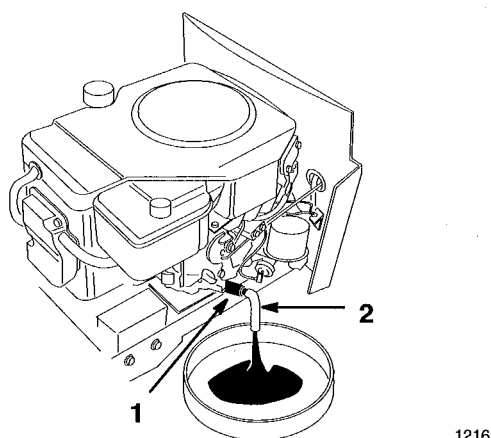

Figure 18
5. Place a pan below the oil drain. Open the drain by turning counterclockwise, 1/8 turn and pull out (Fig. 18).